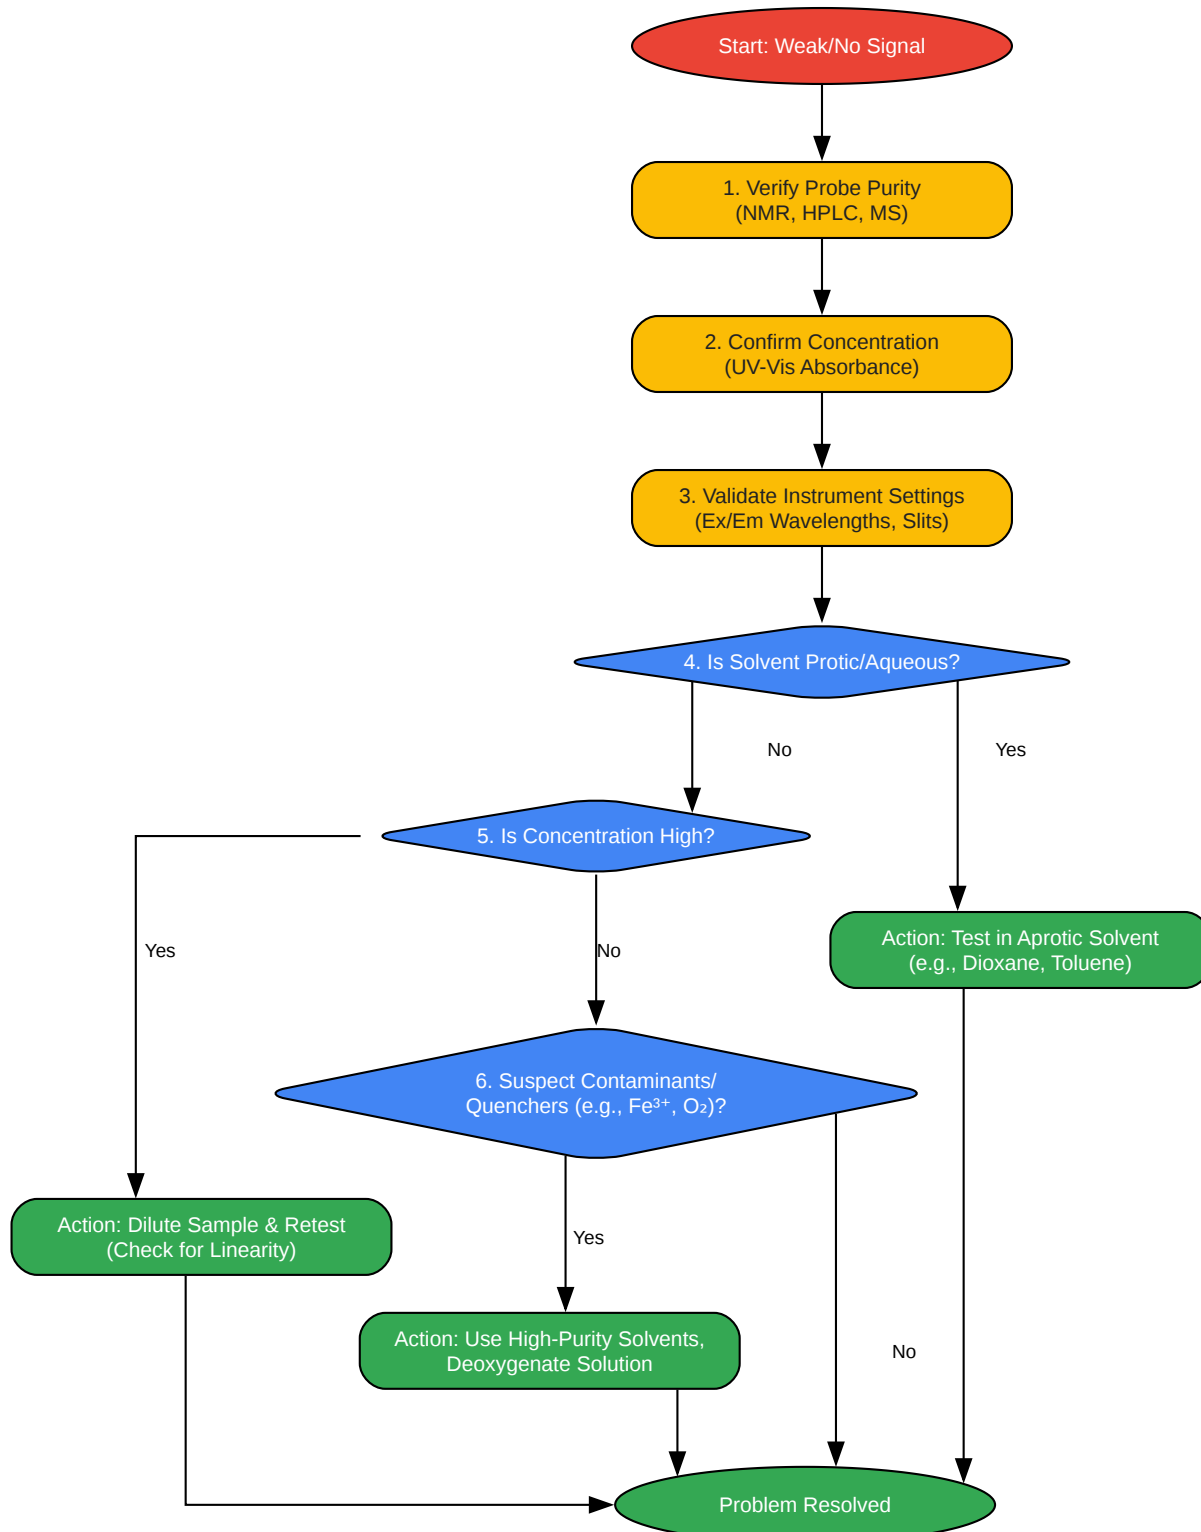

Figure 2. Troubleshooting Workflow for Low Fluorescence
- A: Begin with the basics in the workflow (Figure 2). First, confirm your excitation and emission wavelengths are correct for your specific 8-HQ derivative. Second, verify the probe's concentration using its UV-Vis absorbance spectrum and molar extinction coefficient. An unexpectedly low absorbance means your concentration is lower than intended.